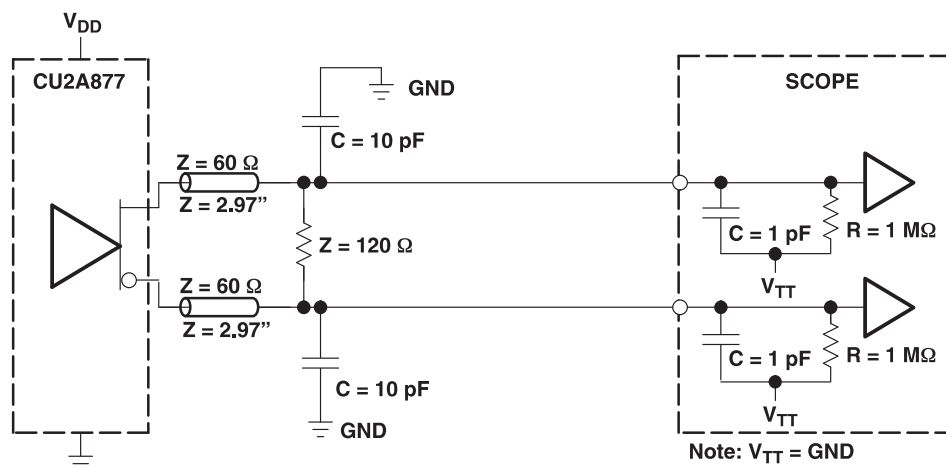
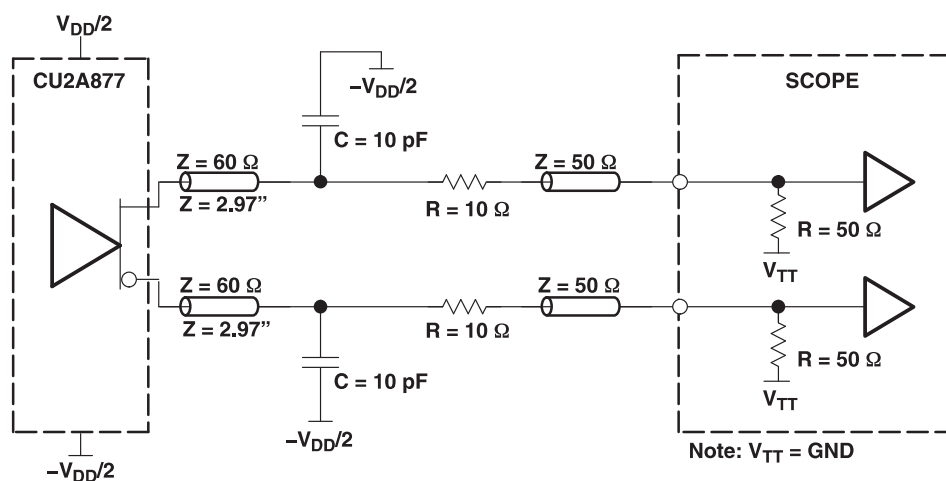
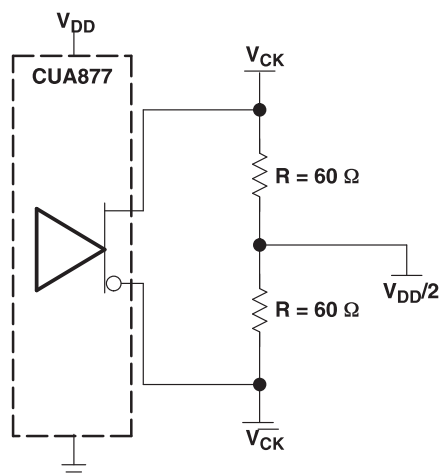

Figure 2. Output Load Test Circuit 1 (Using High-Impedance Probe)
Figure 3. Output Load Test Circuit 2 (Using SMA Coaxial Cable)
Figure 4. IBIS Model Output Load
- (1) There are two different terminations that are used with the following tests. The load/board in Figure 2 is used to measure the input and output differential-pair cross voltage only. The load/board in Figure 3 is used to measure all other tests. For consistency, equal length cables must be used.
- (2) This parameter is assured by design and characterization.
- (3) Phase static offset time does not include jitter.
- (4) For full frequency range of 160MHz to 410MHz.
- (5) Period jitter, half-period jitter specifications are separate specifications that must be met independently of each other.
- (6) In the frequency range of 271 MHz to 410 MHz, the minimum and maximum values of $t_{jit(per)}$ and $t_{(\phi)dyn}$ and the maximum value for $t_{sk(o)}$ must not exceed the corresponding minimum and maximum values of the 160 MHz to 270 MHz range. In addition, the sum of the specified values for $|t_{jit(per)}|$, $|t_{(\phi)dyn}|$, and $t_{sk(o)}$ must meet the requirements for the $\Sigma t_{(su)}$ and the sum of the specified values for $|t_{(\phi)dyn}|$ and $t_{sk(o)}$ must meet the requirements for the $\Sigma t_{(h)}$.
- (7) The output slew rate is determined from the IBIS model into the load shown in Figure 4.
- (8) To eliminate the impact of input slew rates on static phase offset, the input skew rates of reference clock input CK and $\overline{CK}$ and feedback clock inputs FBIN and $\overline{FBIN}$ are recommended to be nearly equal. The 2.5-V/ns skew rates are shown as a recommended target. Compliance with these typical values is not mandatory if it can adequately shown that alternative characteristics meet the requirements of the registered DDR2 DIMM application.
- (9) Output differential-pair cross voltage specified at the DRAM clock input or the test load.